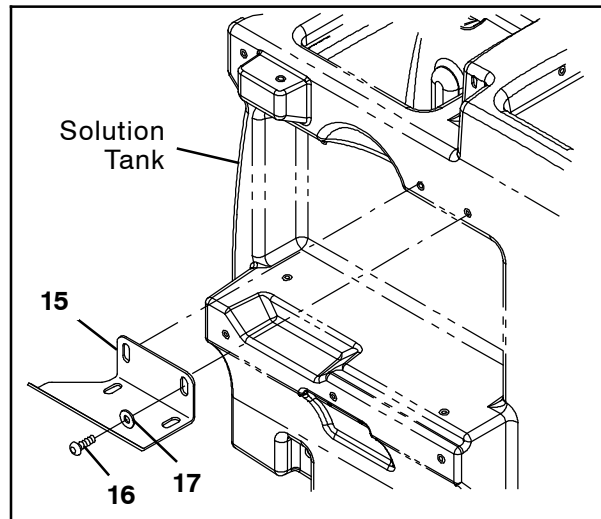

FIG. 6
20. Use two button screws (16) and two flat washers (17) to install the spray wand mounting bracket (15) onto the recovery tank. (Fig. 6)